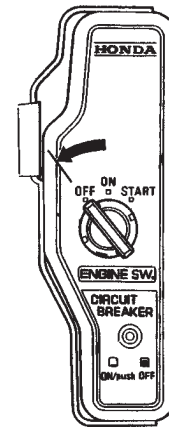

Figure 20. Ignition Switch (OFF)
6. Place the engine **fuel valve lever** (Figure 20) in the **OFF** position.
1. Turn the ignition key (Figure 20) to the **OFF** position.